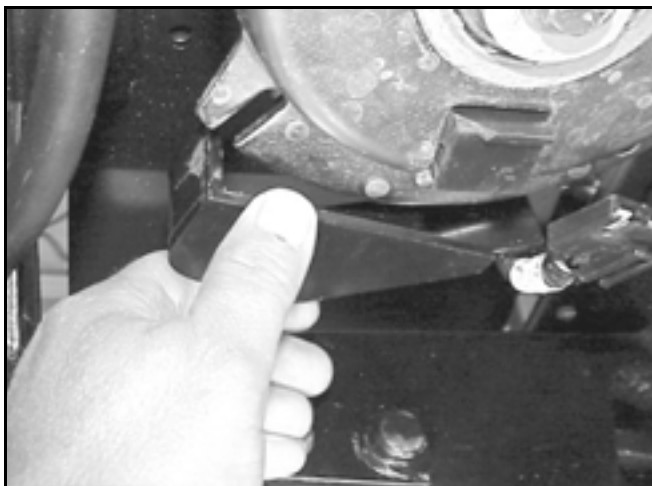

Figure 152
3. Remove the RH bolt that holds the PTO stop assembly. Loosen the LH bolt enough so you can turn the PTO stop assembly enough to disengage it from the slot in the electric PTO clutch housing (Figure 152).